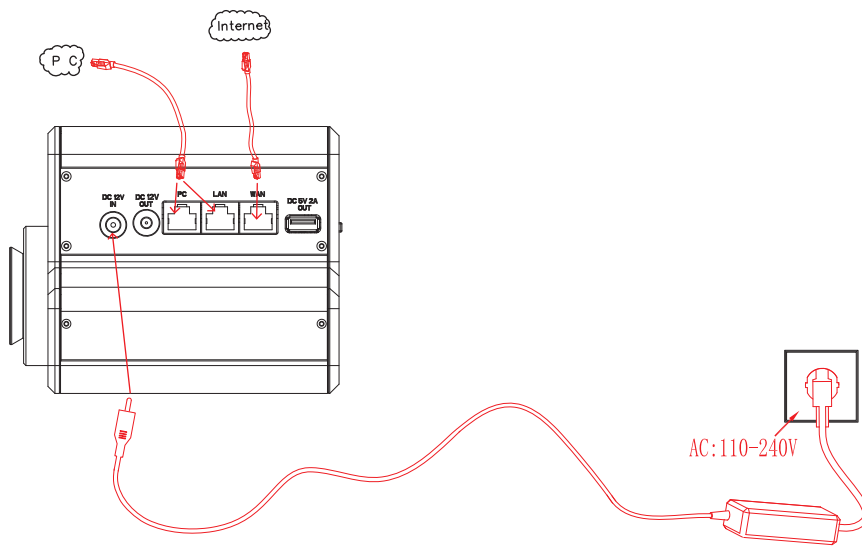

Figure 7
(3) If needed, connect the WAN port of the interactive workstation with a network cable to the Internet, as shown in Figure 7 below.